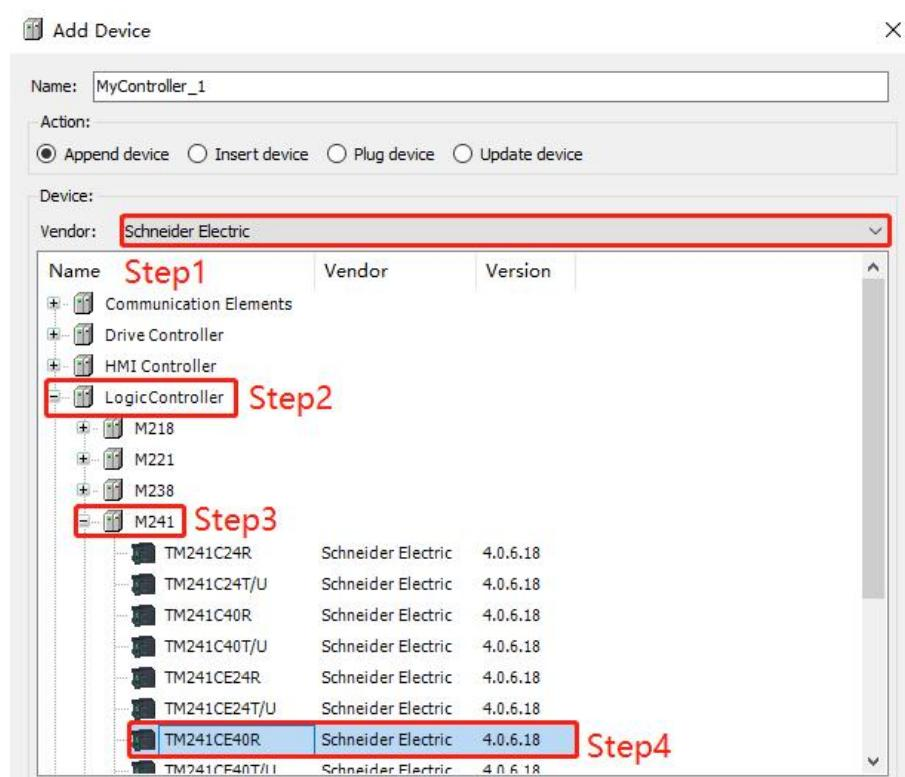

Figure 5-3-7
- As shown in Figure 5-3-7, select the corresponding PLC model and double-click to add.